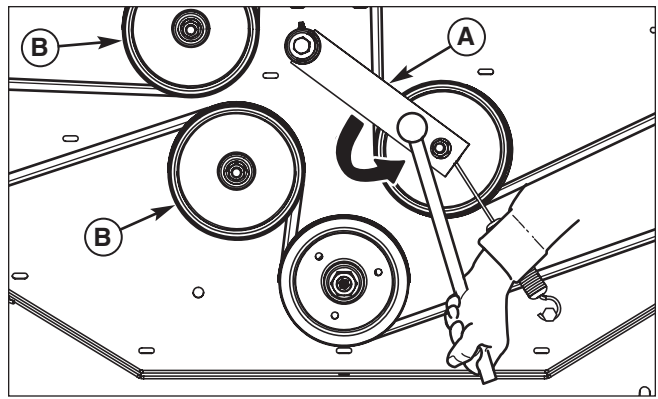

Figure 42. Mower PTO Belt
3. Using a 1/2" breaker bar, place the square end in the square hole located in the end of the idler arm (A, Figures 42). Carefully rotate the breaker bar counter-clockwise, which will relieve the tension on the belt exerted from the idler arm.
6. Install the drive belt on the PTO pulley, the spindle pulleys and all idler pulleys except the stationary pulley (B, Figure 42). Carefully rotate the breaker bar counter-clockwise and install the belt on the stationary idler pulley (B). Carefully release the tension on the breaker bar.